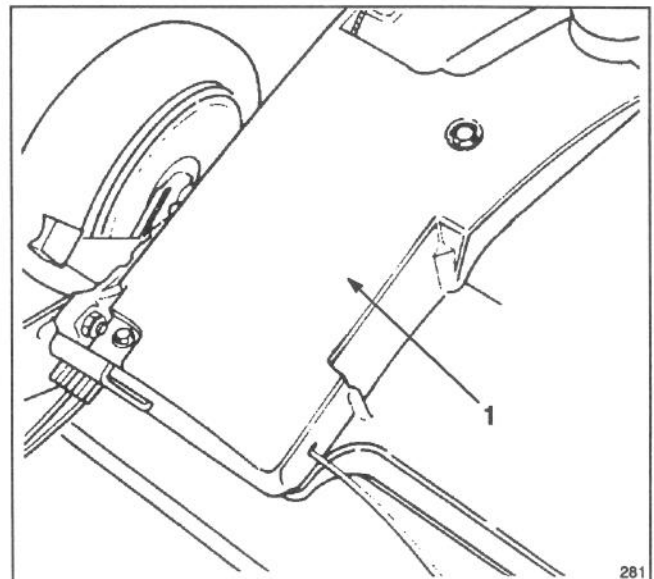

Figure 30
6. Remove bolts securing belt cover (Fig. 30) to mower housing. Lift off cover and brush out all debris from belt area. Reinstall belt cover.